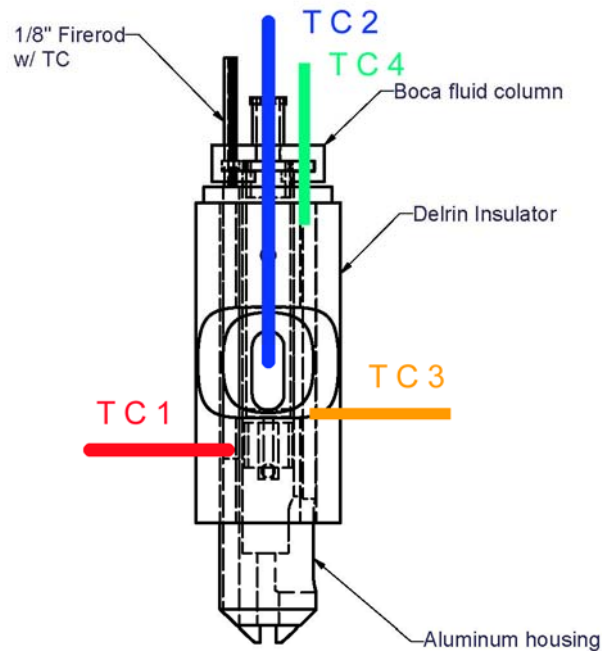

Figure 2 - Thermocouple locations
The thermocouple (TC) locations shown in Figure 2 are summarized as follows: